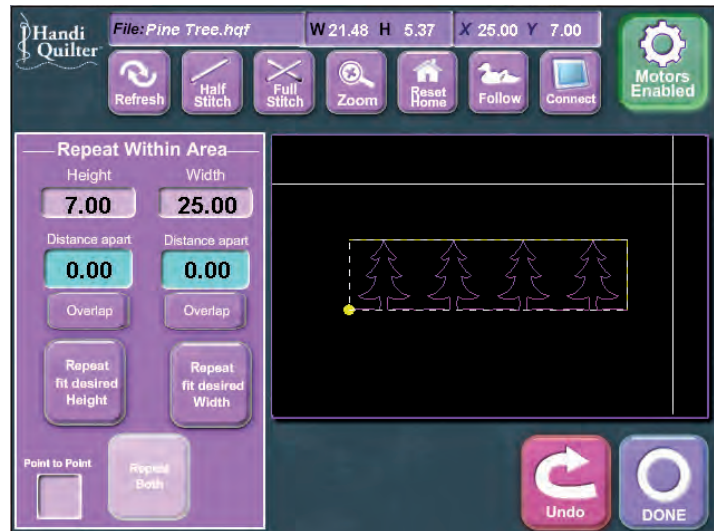
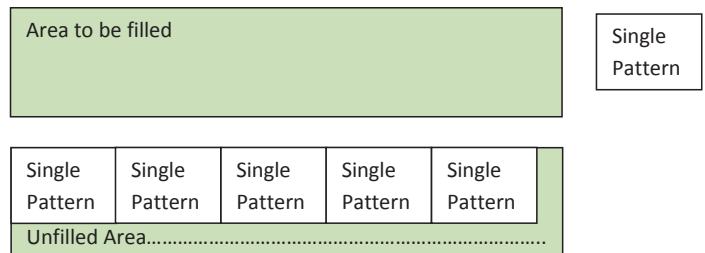

Figure 27
Figure 28
5. Press the “Repeat Both” button to process the repeats (Figure 27). The HQ Pro-Stitcher will fit as many repeats of the original pattern within the defined area as it can without stretching the pattern. There will most likely be left-over areas at the right and bottom of the pattern that will not be filled because further repeats would be too large for the designated area as shown in Figure 28.